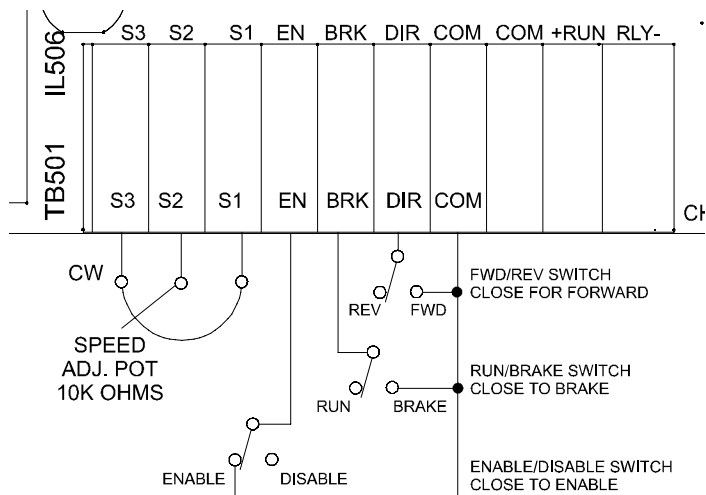

Figure 5. Signal and Optional Switch Connections
**Warning!** Allowing the RUN/BRAKE switch to remain in the BRAKE position for an extended period of time may cause motor overheating. Minarik recommends that you disable the drive or remove power if the motor is to remain idle. See Figure 5 for ENABLE/DISABLE switch installation.